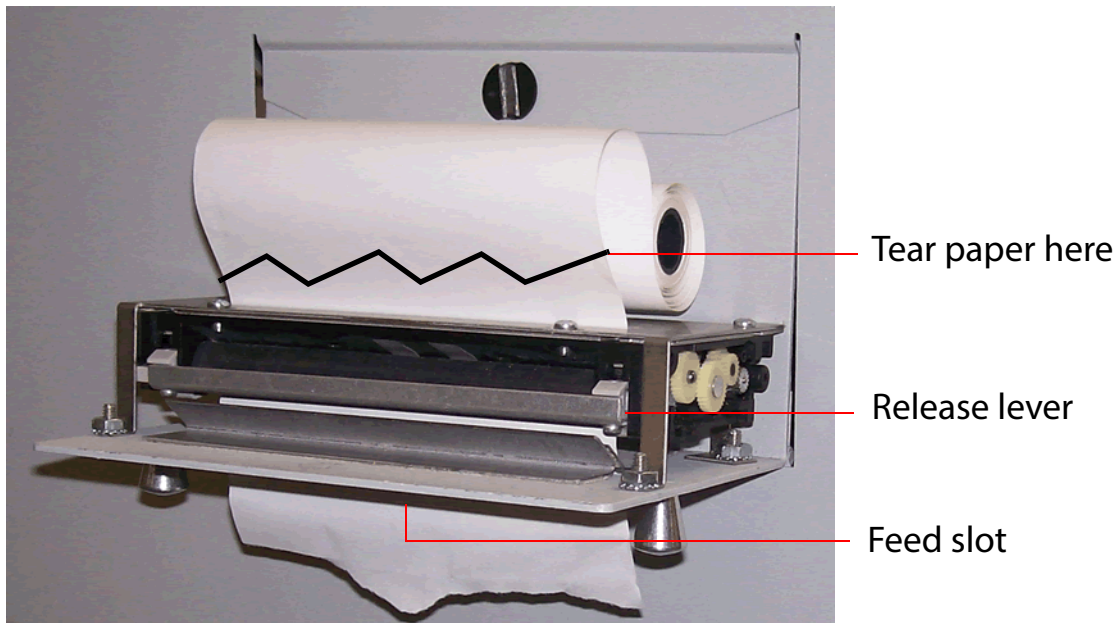

Figure 79: Paper removal
4. Place a new roll of paper on the metal shaft and install the roll in the printer so that the paper will feed from the top of the roll (see Figure 79). The paper will automatically feed into the printer.